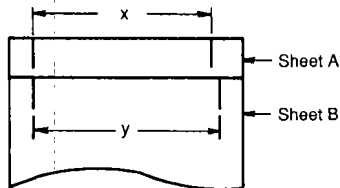

Figure 4-17
- 4) Put the left lines on sheet A and sheet B together, and adjust the position of the No. 1 mirror so that x and y in Figure 4-17 are identical.